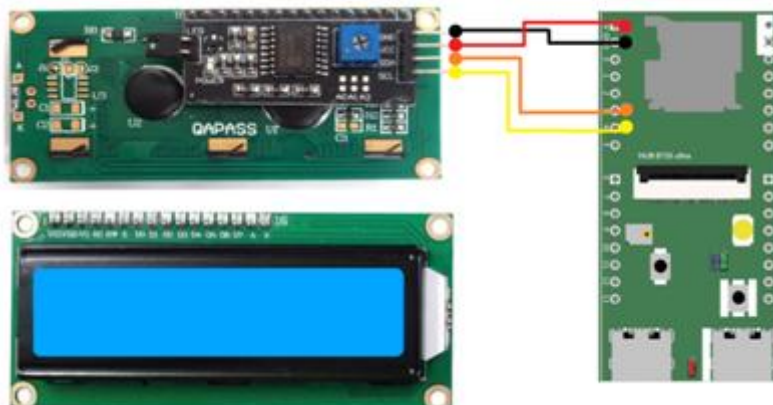

Figure 19 · LCD 1602 and HUB 8735 Ultra connection
Connect the LCD 1602 to HUB 8735 Ultra as Figure 19. Compile and upload your code to HUB 8735 Ultra (Refer (4) HUB 8735 Ultra Firmware Upgrade). Reboot the hardware board, and you can see the string “Hello World” and “Ameba” on the LCD 1602.